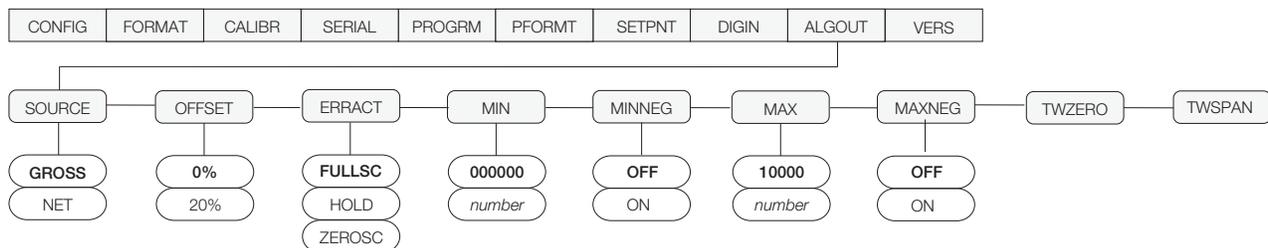

Figure 4. Analog Output Menu
- Enter setup mode and go to the *ALGOUT* menu (see Figure 4).